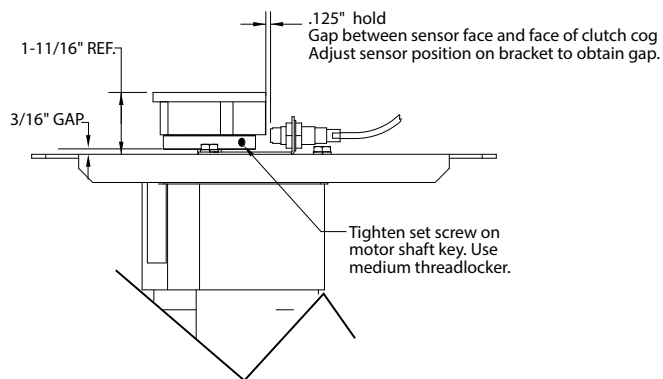

Fig. 16
1. Fig. 16 shows the rotation arrow label on the rear pump housing.